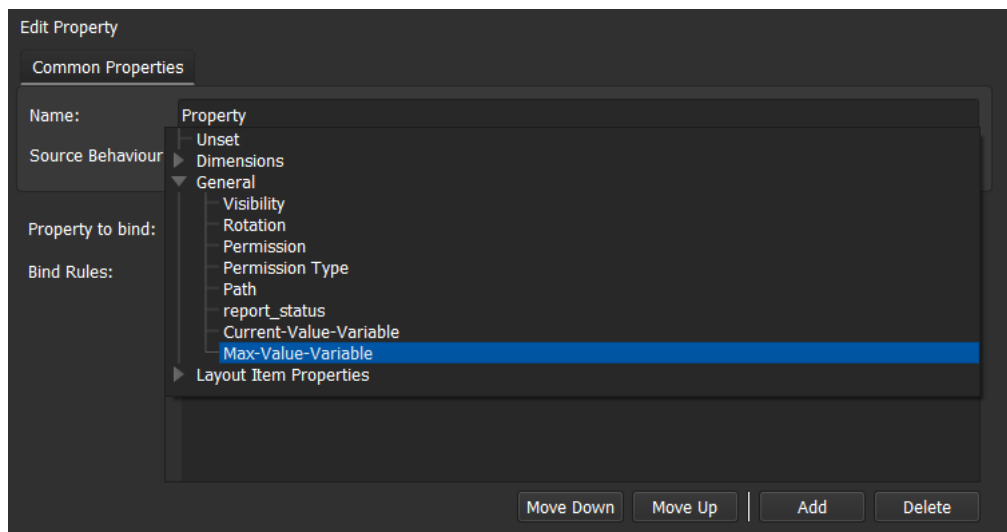

Fig. 4-27: Setting 'Property to Bind'
- 'Property to Bind' to Max-Value-Variable (see Figure 4-27)And then click **Add**.